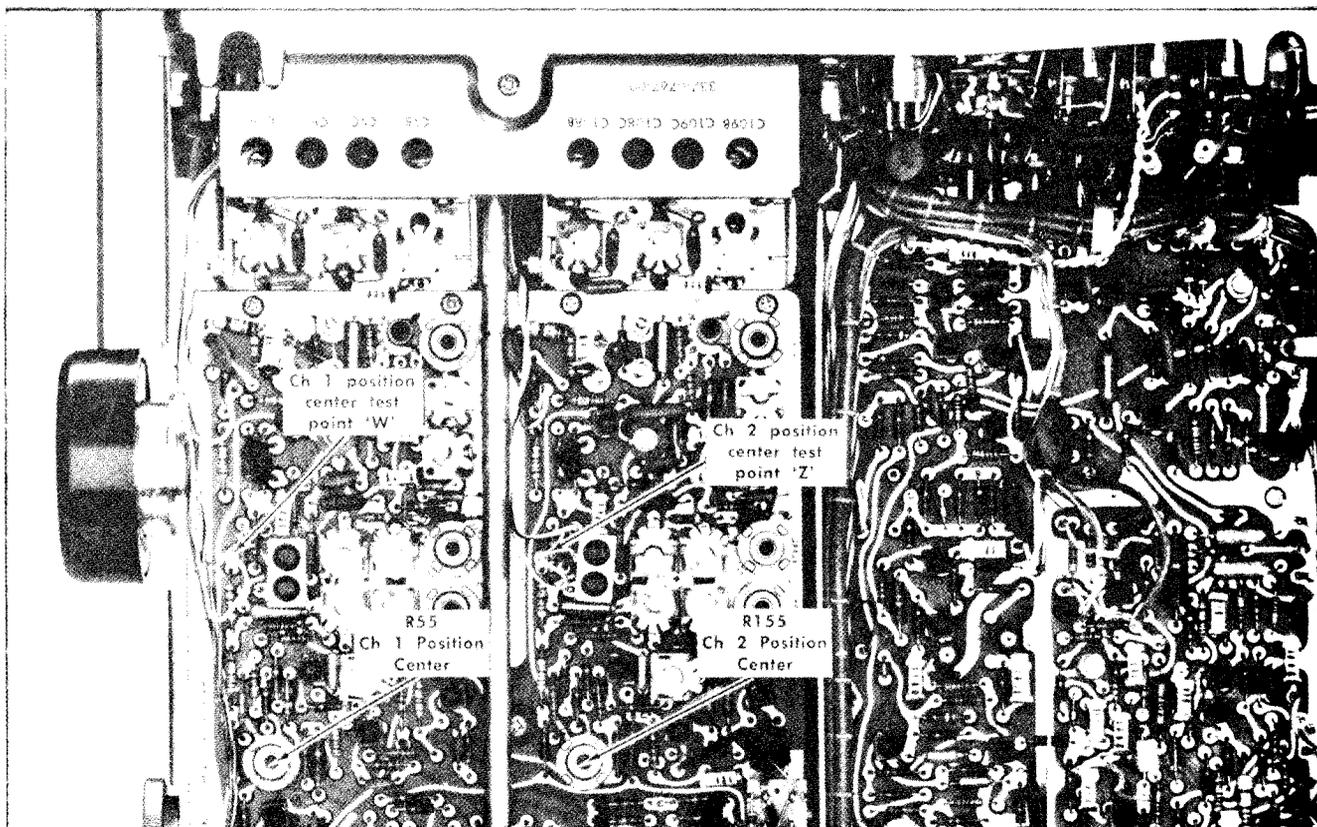

Fig. 6-15. Location of Channel 1 and 2 position center test points and adjustments (Vertical Preamp circuit board).
a. Connect the precision DC voltmeter between the Channel 2 position center test point (pin connector 'Z') on the Vertical Preamp board (see Fig. 6-15) and chassis ground.
f. Connect the precision DC voltmeter between the Channel 1 position center test point (pin connector 'W') on the Vertical Preamp board (see Fig. 6-15) and chassis ground.
i. ADJUST-CH 1 Position Center adjustment, R55 (see Fig. 6-15), to position the trace to the center line.